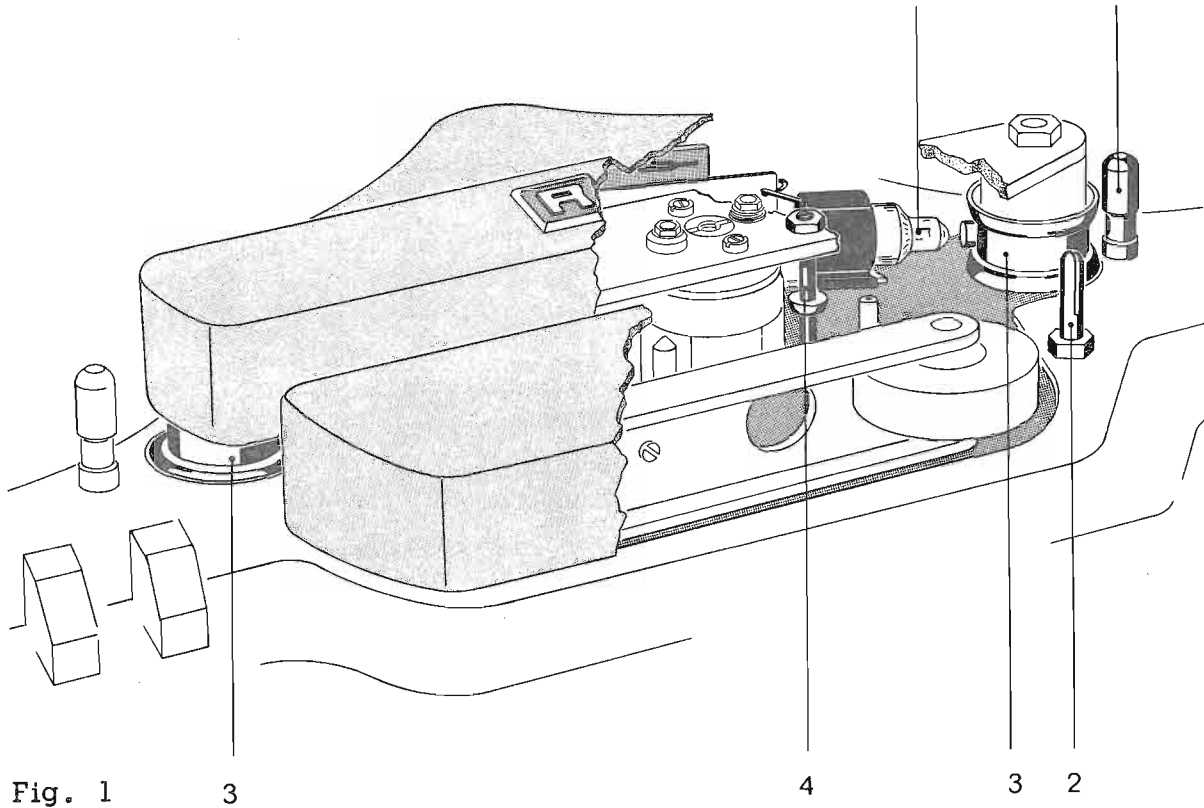
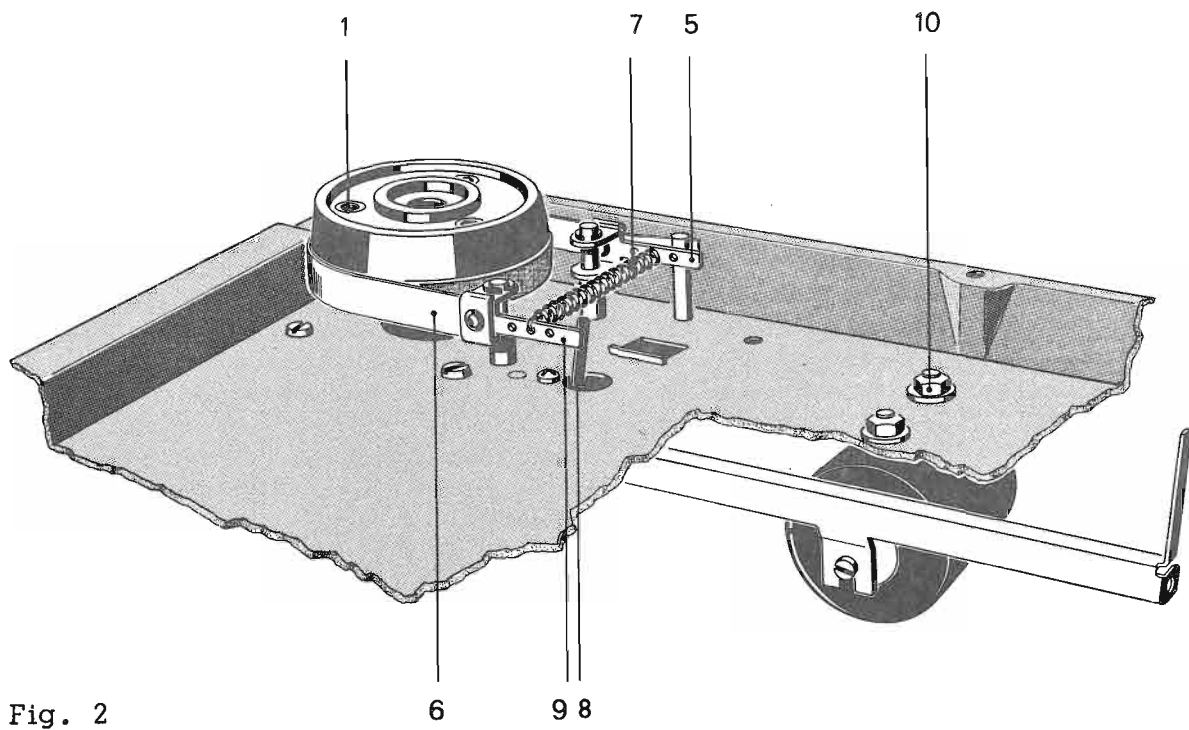

Fig. 1
Fig. 2
(3 in fig. 1 and 8) operates a switch (SE on schematic) which, in series with the stop button, provides a current path to a solenoid incorporated in the push button unit. This has the effect of clearing any selected function either by depressing the stop button or operation of the end of tape switch. On recorders up to serial No. 36 500, the function of the end of tape switch is delayed by about two seconds to avoid tripping during the start mode. On machines with higher serial numbers (recognizable by the end-of-tape switch being made of gold-plated wire with NC contact configuration) this time delay (relais) has been utilized to supply increased operating voltage to the wind motors, thus providing the required starting torque. (Inset schematic B and diagram 7.736.001-002:6 refer.)
It is advisable to use a full and an empty 10 1/2 inch spool when carrying out adjustments. For the majority of tape transport checks, it is essential to keep the plastic top cover in position. For other mechanical adjustments the top and head covers should be removed. To remove the plastic top plate, pull off the grey control knobs, the transparent selector discs and the plastic cover over the pinch-roller arm. Further undo the mounting screws (1 in fig. 2) of both turntables, of the head cover and the mounting lugs (2 in fig. 1) of the pinch-roller cover. When reassembling, take great care in tightening the turntable screws uniformly to prevent them from wobbling. For best results, they may have to be rotated by 120°.
The tape path level is determined by the left and right hand tape guides (3 in fig. 1) and by a small guide (4) positioned between the playback head and the capstan. We do not recommend that these guides should be interfered with in any way. Adjustment to the spool carrier height can of course be made to enable the tape to be wound centrally between the spool flanges. This is brought about by sliding shim-washers of varying thickness onto the spooling motor shafts after removal of the bakelite brake drums. To pull a brake drum off the shaft, screws should be inserted into the three tapped holes (1 in fig. 2) so as to serve as " handles ". Care should be taken to prevent damage of the brake bands at this stage. Where a brake drum has to be removed it is recommended that the brake band be removed first.
The layout of the brake system is shown in fig. 2. The mounting bracket (5 in fig. 2) on the rear end (stationary) of the brake band must be held tight against the vertical pin on the chassis by sufficient tension of the leaf-spring on the bracket.
Recorders with serial numbers from 58 000 onwards are equipped with a light sensitive auto shut-off device. It consists of a light source (Osram 3644), the photoresistor ORP 62 and a printed circuit section containing two transistors (see fig. 1).